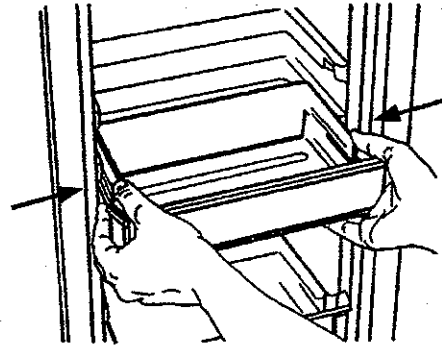

Figure 40
- e. Remove all food from bucket and grasp sides of bucket with thumbs and forefingers of both hands. Push and hold lock tabs toward center of bucket. See Figure 40.